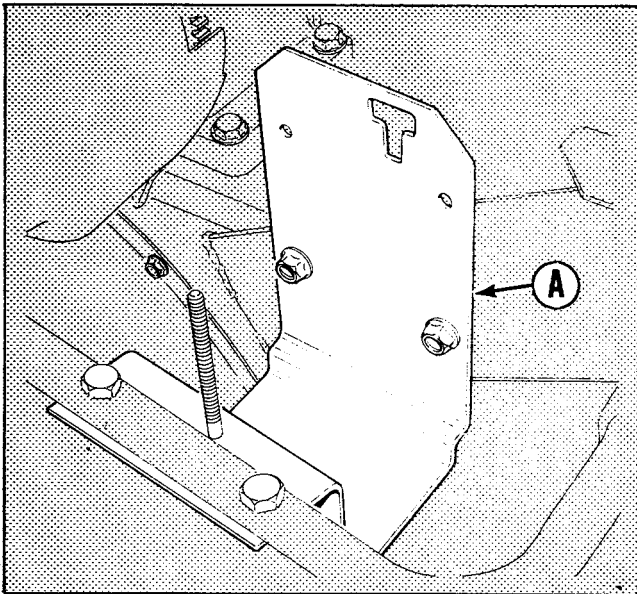

FIGURE 5
8. Install the battery support bracket (A) between the tractor frame and the right hand rear handle using the hardware provided. (See figure 5.)